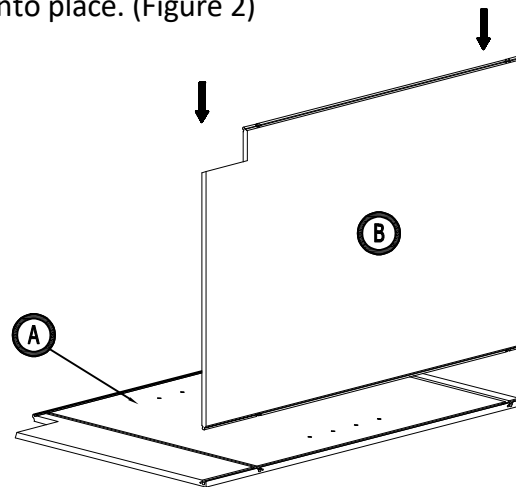

Figure 2
2. Install the Right side Panel : Insert the right side panel (B) into the groove of the left side panel (A) and click it into place. (Figure 2)